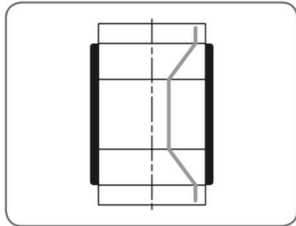

Fig 11 Pulleys with combined horizontal angle and parallel misalignments
- 6.1. Elimination of vertical angle misalignment: Place shims beneath the front or rear feet of the moveable machine until the laser line is parallel to the reference lines (as per figure 11).